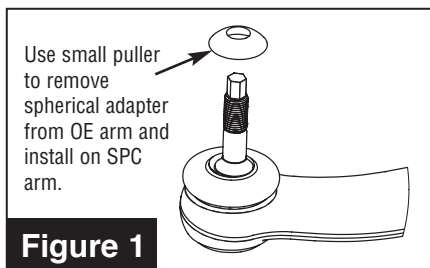

Figure 1
4. Using SPC P/N 8370 Tie Rod Separator or similar, remove spherical adapter from outboard end of OE arm as shown in **Figure 1**.